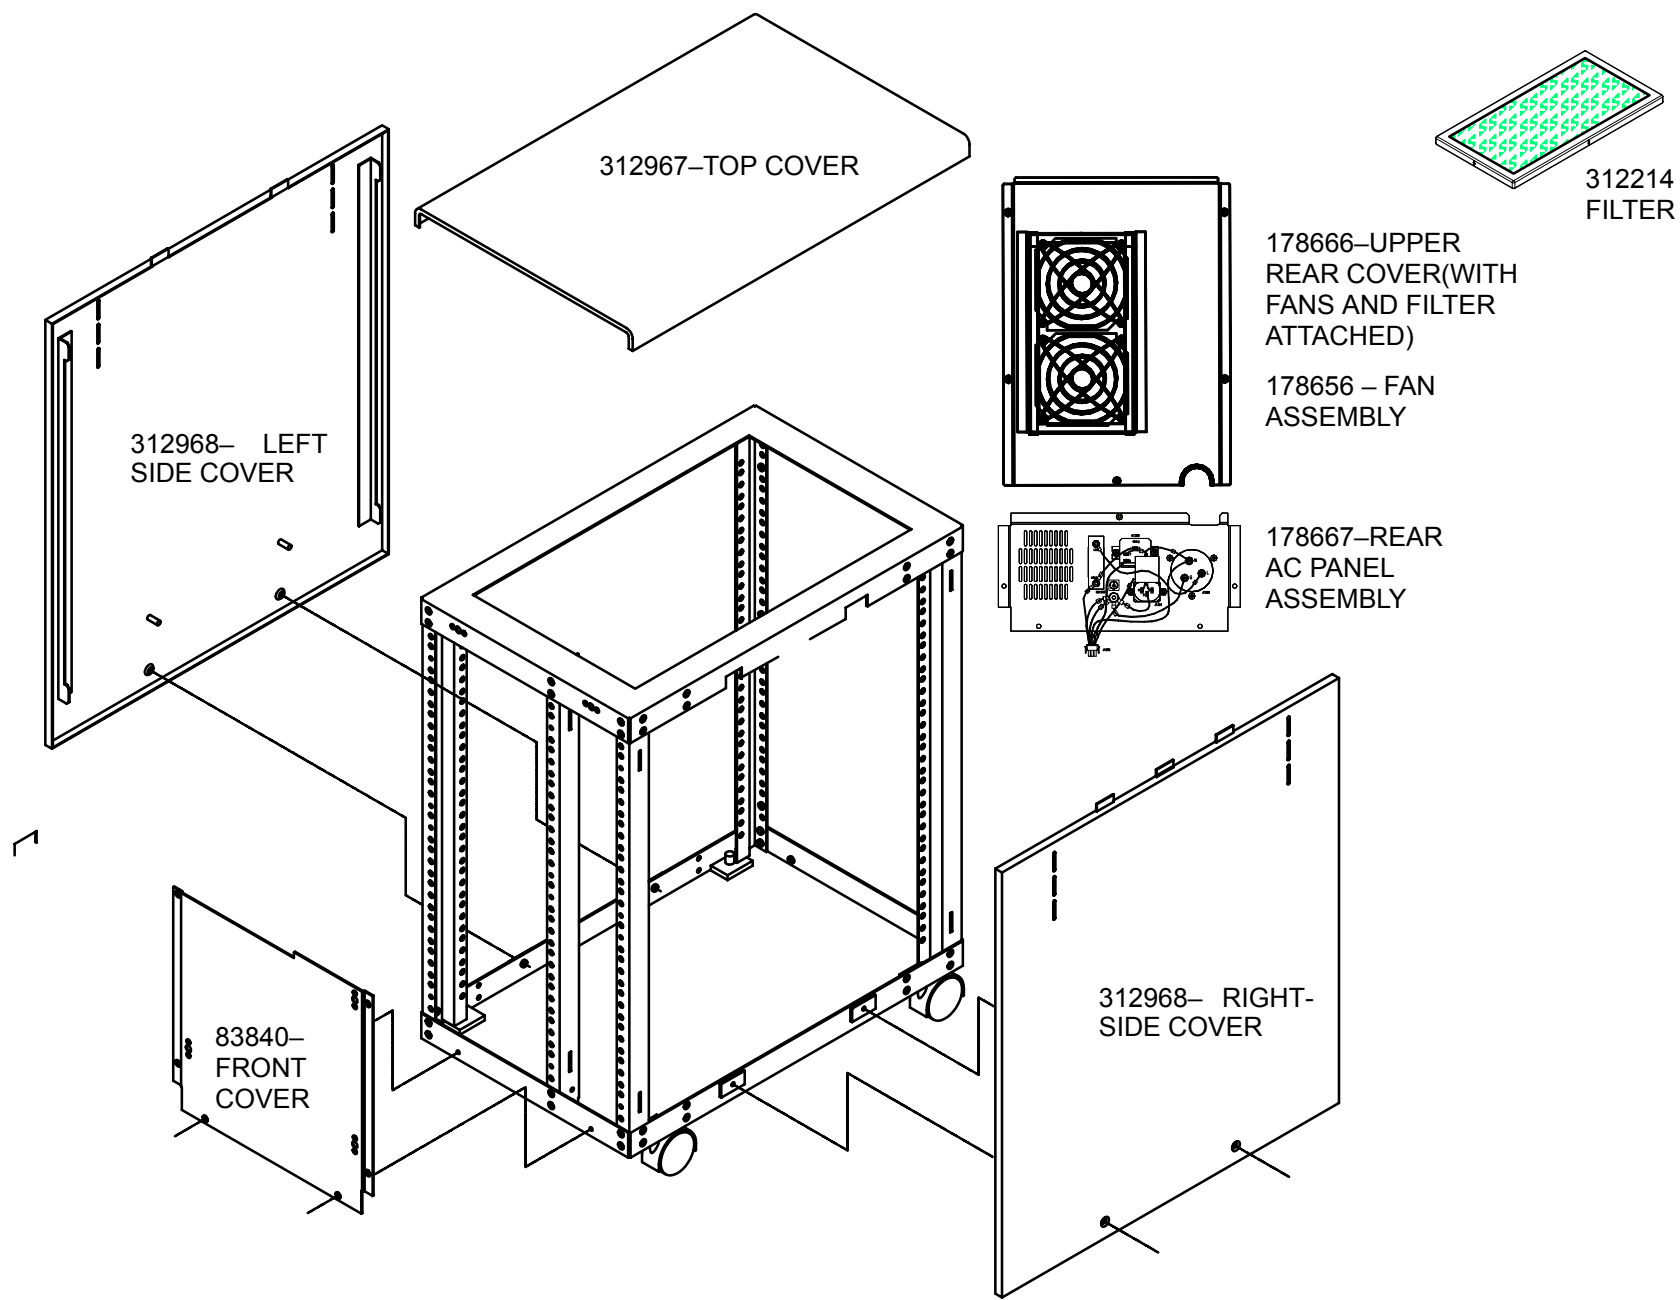

FIGURE 342 DISPLAY TOWER – ALL COVERS REMOVED (Internal Components not Shown)
1. Remove Display Tower power. Refer to the PowerUp/PowerDown procedure. **Refer to Figure 342 for all of the cover removal / replacement procedures.**
2. The decorative cover removed here is only cosmetic. To access the disk drives and the lower front portion, you must remove the lower front steel panel by removing the six screws. Refer to Figure 342.